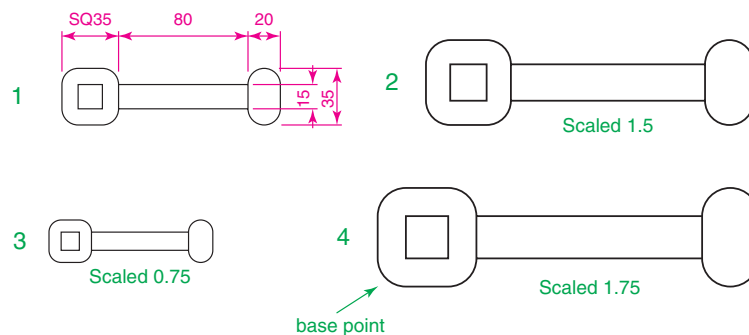

Fig. 5.29 Examples – **Scale**
Examples – Scale (Fig. 5.29)
1. Using the **Rectangle** and **Polyline** tools, construct drawing **1** of Fig. 5.29. The **Rectangle** fillets are R10. The line width of all parts is **1**. Copy the drawing 3 times to give drawings **2**, **3** and **4**.
The results are shown in Fig. 5.29.